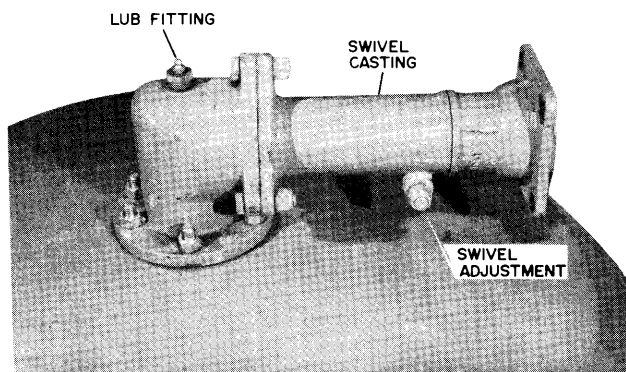

Fig. 7
1. Swivel action of the mower is regulated by the nut and bolt on the swivel casting. See fig. 7. Loosening allows more swivel action, tightening reduces the action. The swivel action should be only loose enough to allow the mower to follow ground contour.